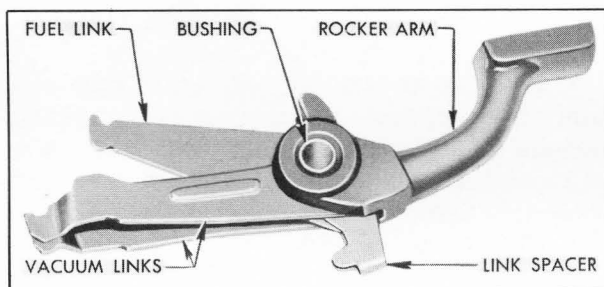

Figure 3-27—Links, Spacer, Rocker Arm, and Bushing Assembled
2. Insert drilled end of fuel link (short) into link spacer. Place one vacuum link (long) on each side of spacer so that the hooked ends of long links come together. The hooked ends of all links and the projection on link spacer must point as shown in figure 3-27.
3. Line up holes in links and spacer, slide parts between the jaws of rocker arm with flat surface of rocker arm pad facing in same direction as link hooks, then install the pin bushing. See figure 3-27.